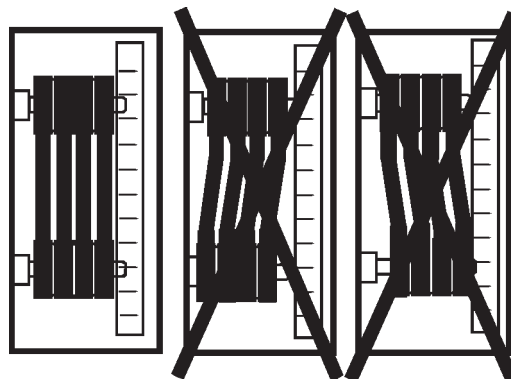

Figure 16. V-Belt Parallelism
2. Check uniform parallelism (Figure 16) of V-belts and pulley (sheaves). Use a straight edge or machinist's square against both pulleys and adjust both pulleys until equally aligned.